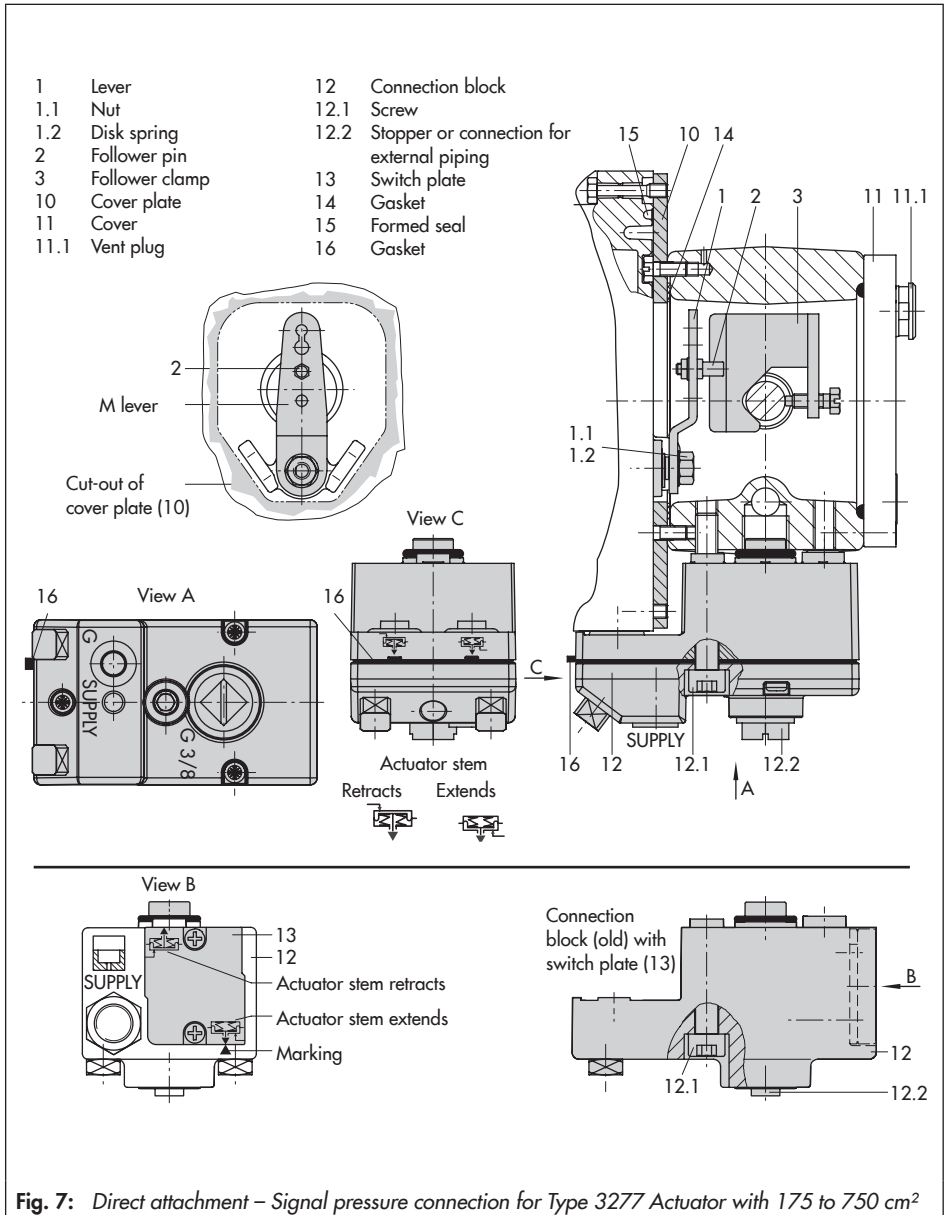

Fig. 7: Direct attachment – Signal pressure connection for Type 3277 Actuator with 175 to 750 cm2
#### Actuators with 175 to 750 cm2 effective areas (see Fig. 7)
1. Place follower clamp (3) on the actuator stem, align it and screw tight so that the mounting screw is located in the groove of the actuator stem.
2. Mount cover plate (10) with narrow side of the cut-out (Fig. 7, on the left) pointing towards the signal pressure connection. Make sure that the gasket (14) points towards the actuator yoke.
3. For actuators with 355, 700 or 750 cm2, remove the follower pin (2) on the **M** lever (1) on the back of the positioner from pin position **35**, reposition it in the hole for pin position **50** and screw tight. For actuators 175, 240 and 350 cm2 with 15 mm travel, keep the follower pin (2) in pin position **35**.
4. Insert formed seal (15) into the groove of the positioner housing.
5. Place positioner on the cover plate in such a manner that the follower pin (2) rests on the top of the follower clamp (3). Adjust the lever (1) correspondingly and open the positioner cover to hold the positioner shaft in position at the cap or rotary pushbutton. The lever (1) must rest on the follower clamp with spring force. Mount the positioner on the cover plate (10) using the two fixing screws.
6. Make sure that the tip of the gasket (16) projecting from the side of the connection block is positioned to match the actuator symbol for the actuator's fail-safe action "actuator stem extends" or "actuator stem retracts". If this is not the case, unscrew the three fastening screws and lift off the cover. Turn the gasket (16) by 180° and re-insert it.
The old connection block version (Fig. 7, bottom) requires the switch plate (13) to be turned to align the actuator symbol with the arrow marking.
7. Place the connection block (12) with the associated seals against the positioner and the actuator yoke and fasten using the screw (12.1). For actuators with fail-safe action "actuator stem retracts", additionally remove the stopper (12.2) and mount the external signal pressure pipe.
8. Mount cover (11) on the other side. Make sure that the vent plug is located at the bottom when the control valve is installed to allow any condensed water that collects to drain off.